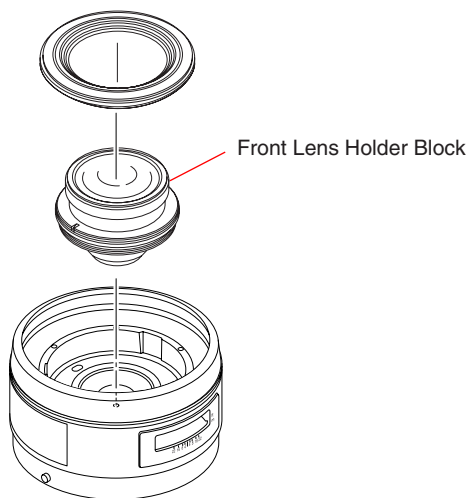

Fig.4-2-9
- 1) Disassemble or assemble the checking lens into the state of Fig.4-2-9.